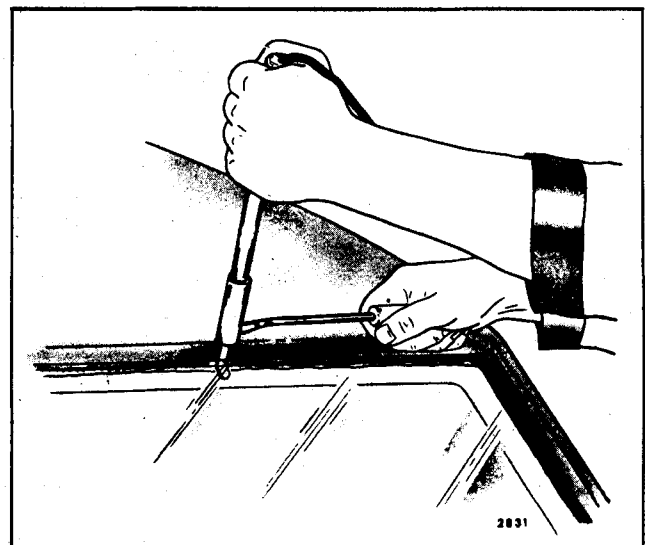

Fig. 4-2-Electric Hot-Knife Removal Method
(not recommended due to inaccessibility at lower corners of windshield glass), and (2) pulling cutting wire through upper and lower edges of glass simultaneously. For latter optional method, insert one end of wire through caulking material at inner upper edge of glass and other end of wire through caulking material at inner lower edge. Attach handles to both wire ends outside of body (Figs. 4-2 and 4-3).